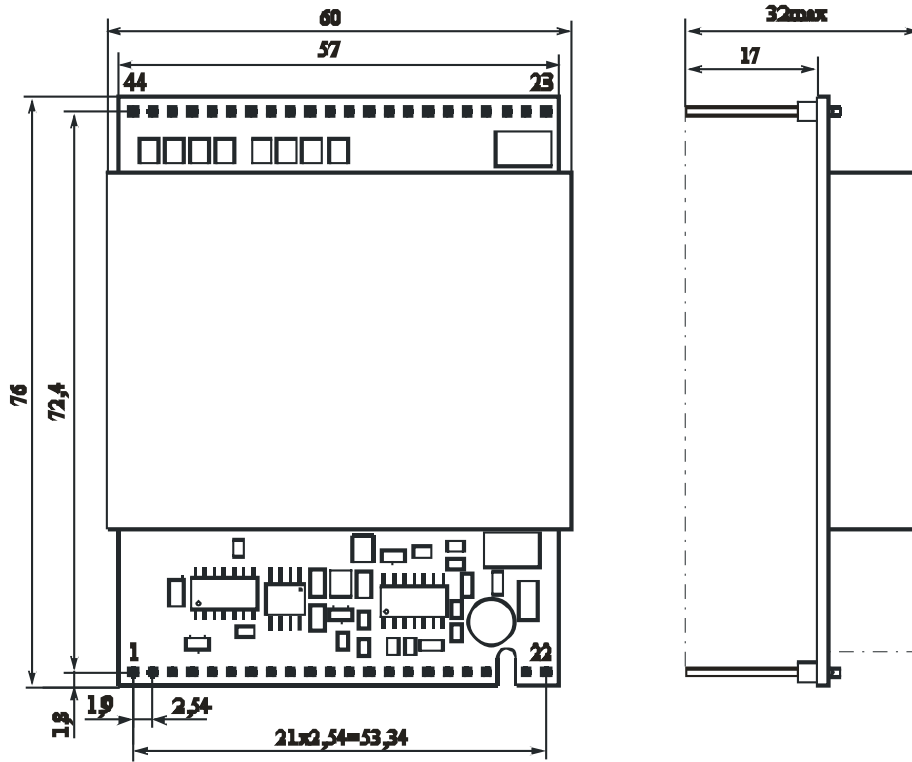
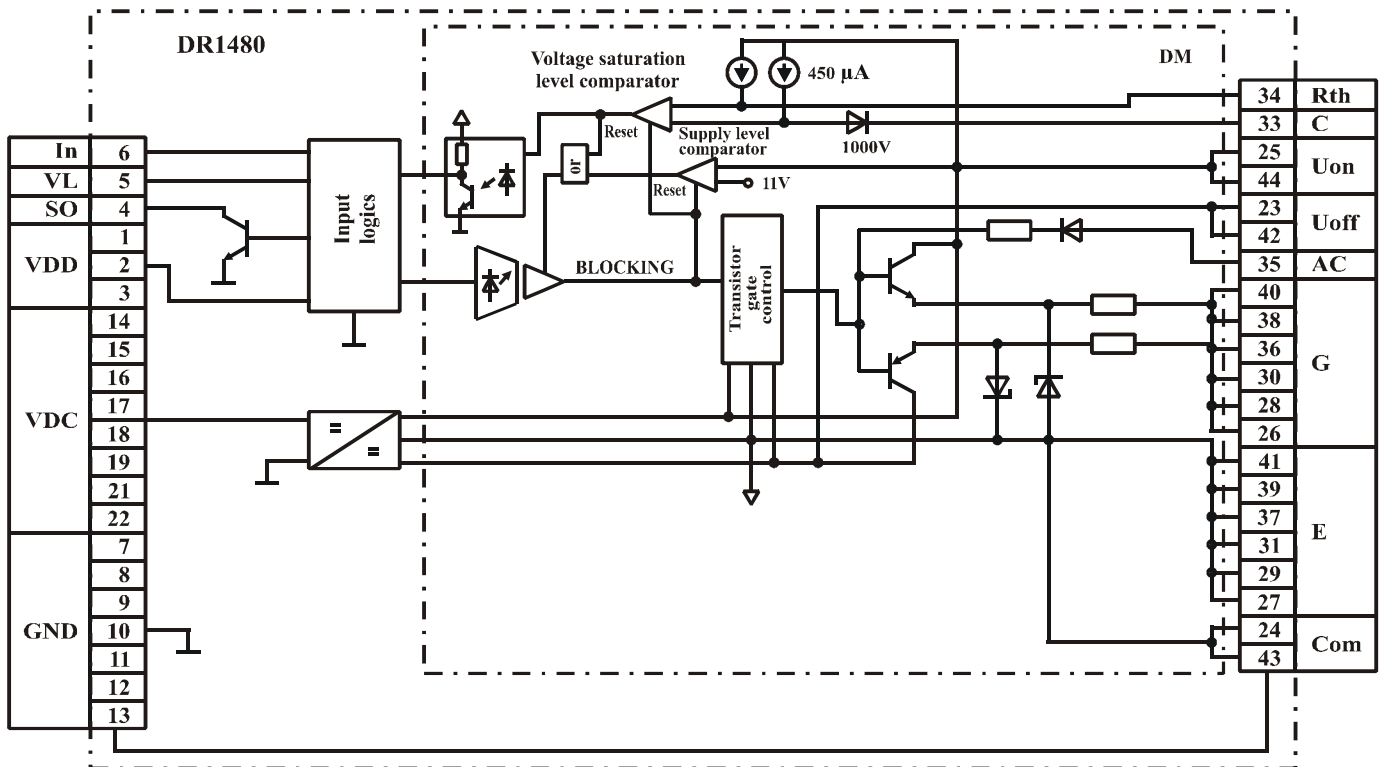

Figure1 – Overall drawing
Figure 2– Driver functional and turn-on circuits
3.2 Overall drawing is shown at Figure 1, driver functional circuit and turn-on circuit are presented at Figure 2.